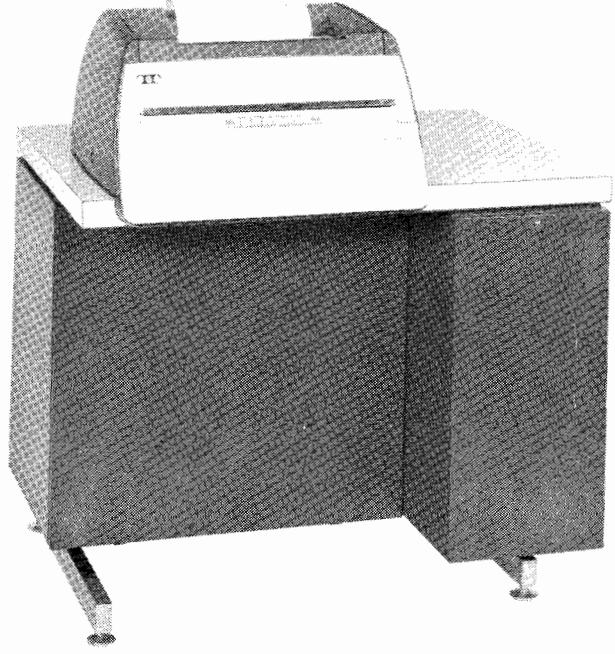

Figure 1 - 37 RO Teletypewriter Set
1.01 This section provides a general description of the 37 Receive-Only (RO) Teletypewriter Set (Figure 1). Set information, which applies to a specific station arrangement only, will be found in the station documentation. REFERENCES, in this section, provides a guide to more specific information.
2.01 A typical RO set (Figure 1) consists of the following components: